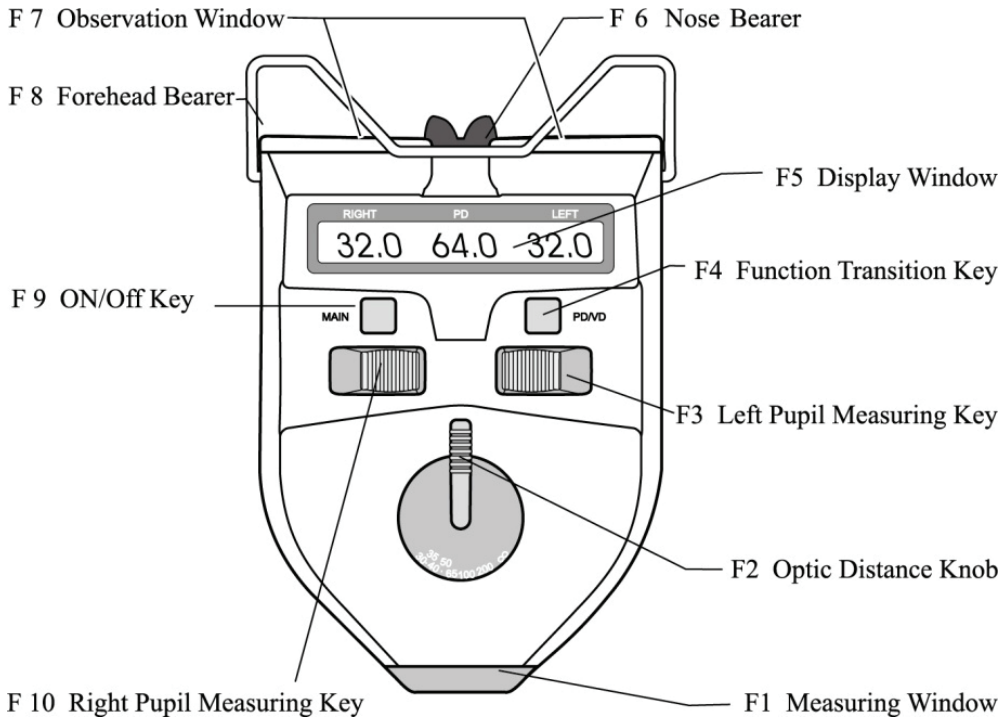

Fig.1
e. In order to measure the pupillary distance at different optic distances, please turn the Optic Distance Knob (as shown in Fig.1 NO.2) to your optic distances first and then make your measurement. This device sets some different optic distance locations such as 30cm, 35cm, 40cm, 50cm, 65cm, 1m, 2m and ∞ .